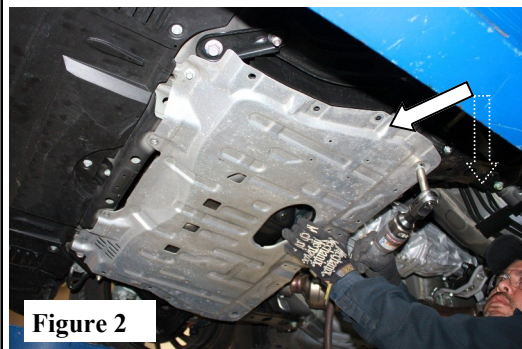

Figure 2
2. Remove (2) engine and transmission under cover panels. (See Fig.2)